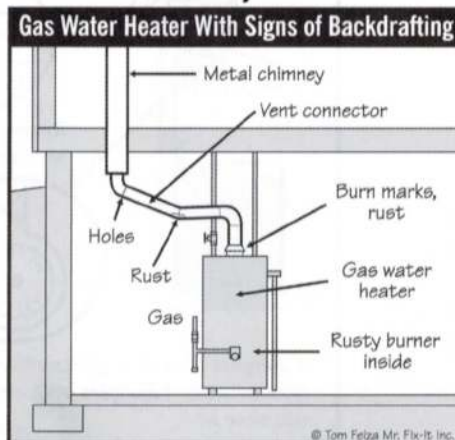

Figure 4
- Check gas-fired appliances (furnaces and water heaters) to make sure they are drafting properly up the chimney. A backdraft would release carbon dioxide and water vapor into the home. *See Figure 4.*